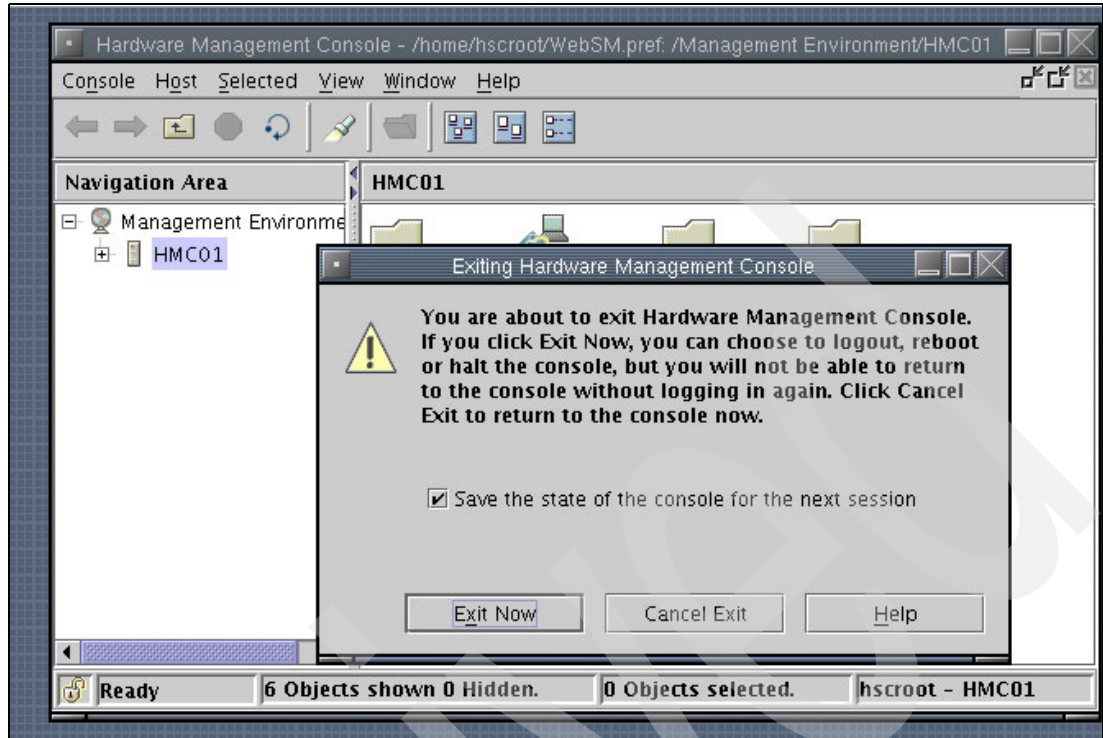

Figure 3-16 Exit the HMC console
1. Select the "console" from the top pull down menu. In this menu you can add and remove hosts, change the desktop theme and fonts, start an `rshterm`, or exit from the HMC, as shown in Figure 3-16.
2. Click **Exit** and the confirmation/menu panel appears. See Figure 3-16.